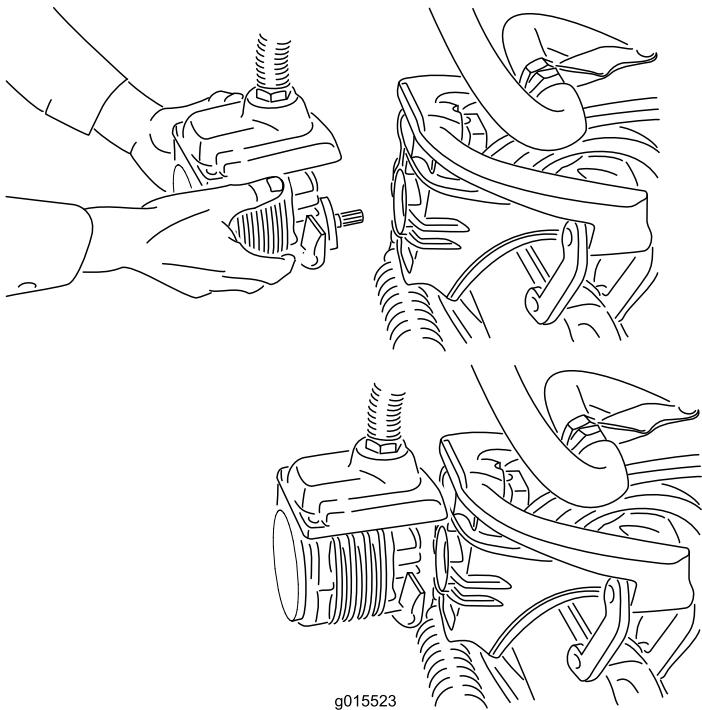

Figure 37
- Move the motor to the storage location on the front of the suspension arm (Figure 37).